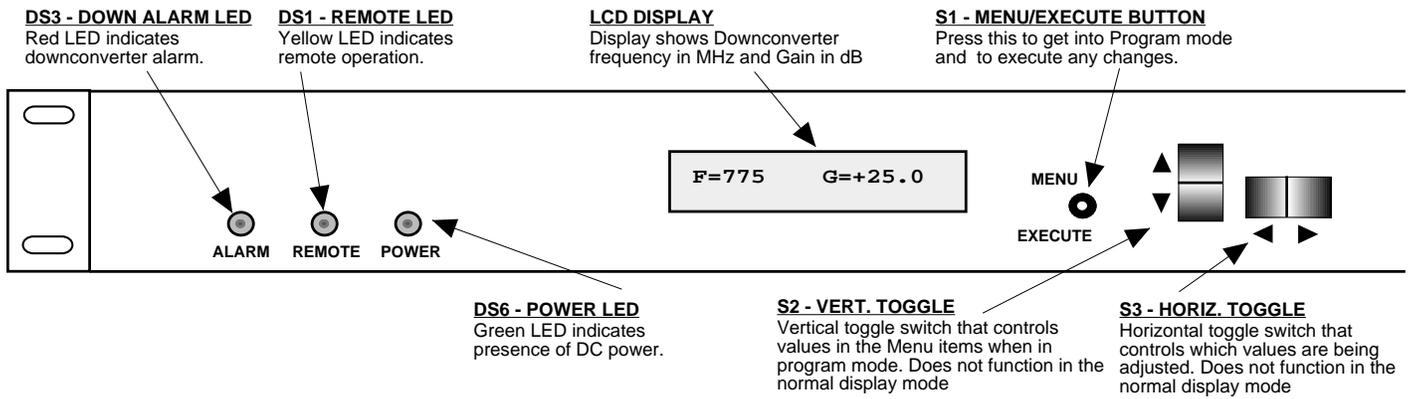

FIGURE 2.3 2016-95 Front Panel Controls and Indicators
6. Be sure DS6 (green, DC Power) is on and DS3 (red, Alarm) is off (Figure 2.3).
Alarm indications appear on the LEDs (See figure 2.3).